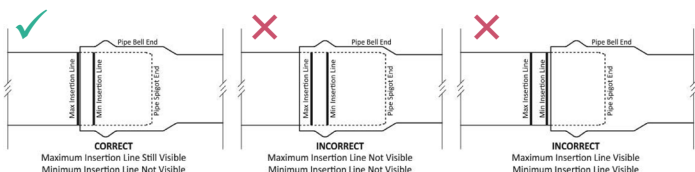

Figure 4 Correct Assembly Depth.
Insert the spigot into the bell such that the first insertion line is no longer visible and the second insertion line is visible in front of the bell face. See Figure 4 below for correct assembly depth.
1. Assemble the pipe/fitting joint such that there is a 13mm (1/2") gap between the maximum insertion line as per Figure 4 (page 14), and the edge of the bell. This gap will allow more movement at the end of the pipe.